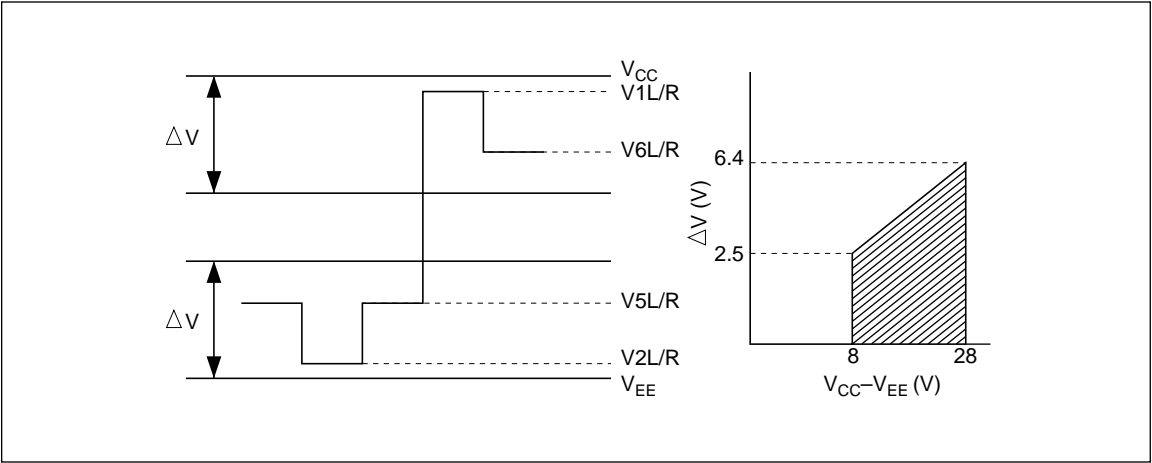

Figure 21 Relationship between Driver Output Waveform
14. $V_{1L/R}$ and $V_{6L/R}$ should be near the V_{CC} level, and $V_{5L/R}$ and $V_{2L/R}$ should be near the V_{EE} level. All these voltage pairs should be separated by less than ΔV , which is the range within which R_{ON} , the LCD drive circuits' output impedance is stable. Note that ΔV depend on power supply voltages $V_{CC} - V_{EE}$. See figure 21.